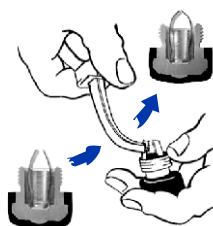

Fig. 5
2. **For increase of the spring pressure** bend both spring leaves so that they are in the top part more curved – see Fig. 5.